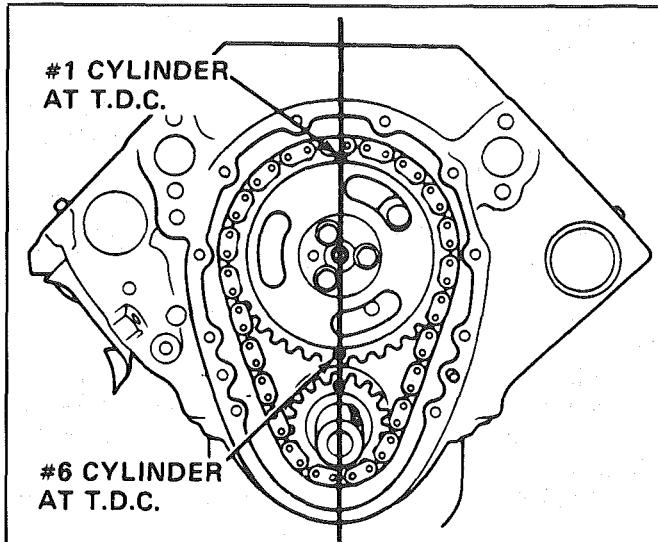

Fig. 6A3-31 Aligning Timing Marks
2. Install timing chain on camshaft sprocket. Hold the sprocket vertically with the chain hanging down and align marks on camshaft and crankshaft sprockets. (Refer to fig. 6A3-31).